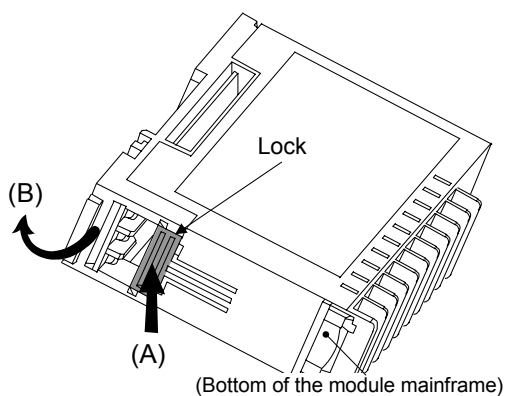

Fig 1: Removing the base
2. Remove the base from the module (B) while the lock is pressed (A). (Fig.1)